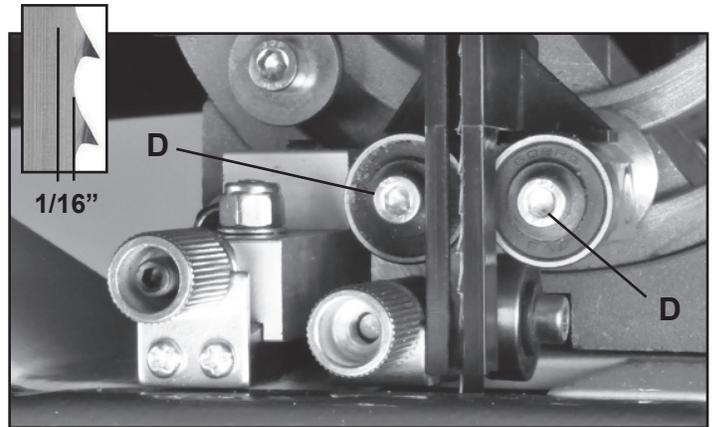

FIGURE 26
3. First, loosen their front locking Hex Cap Screws (#11H, Fig 26, D) with the 4mm hex wrench. To move the guides towards or away from the blade, use the hex wrench as the handle to slide the bearings in place. Once set, secure the Cap Screws.